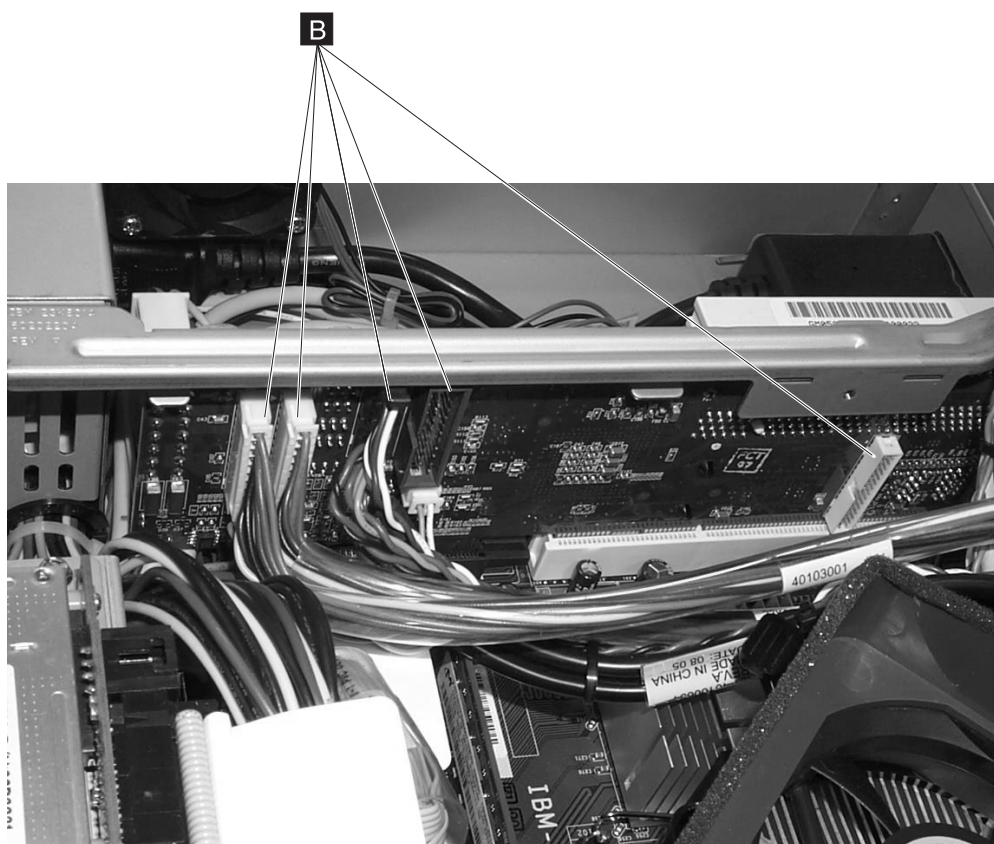

Figure 40. Removing the I/O card cables
6. Remove the four I/O card cables, if installed. See **B** in Figure 40 on page 50. Note the locations for other possible connections.